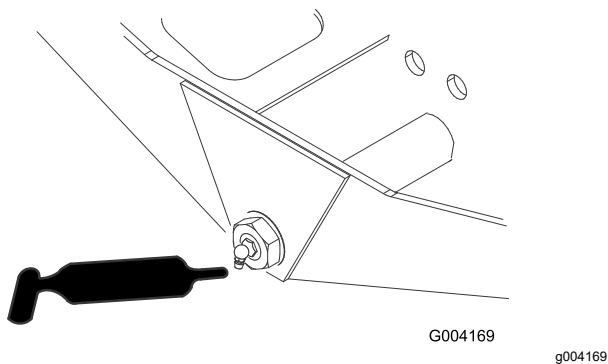

Figure 68
- Axle-steering pivot (1)—Figure 68